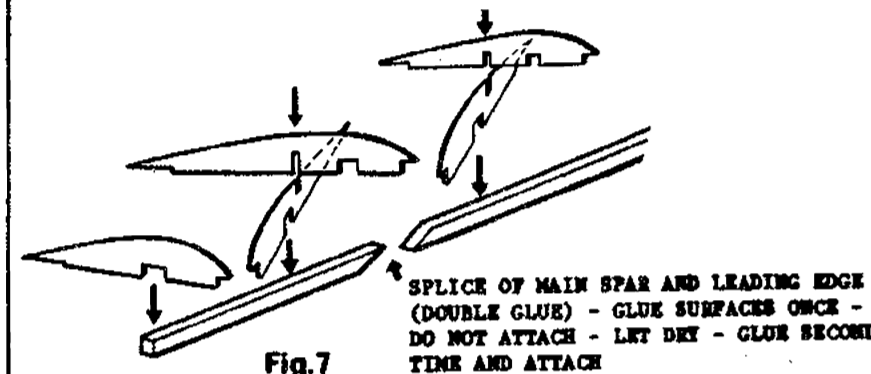
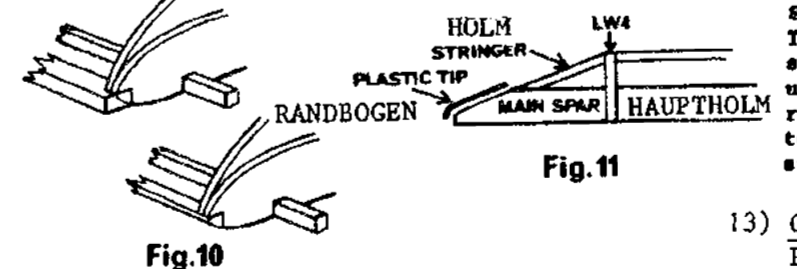
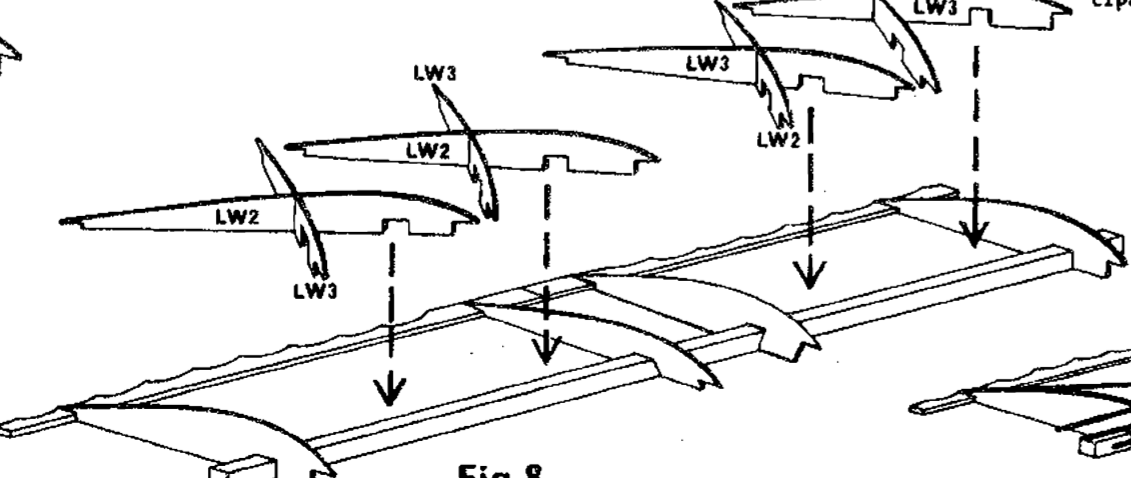
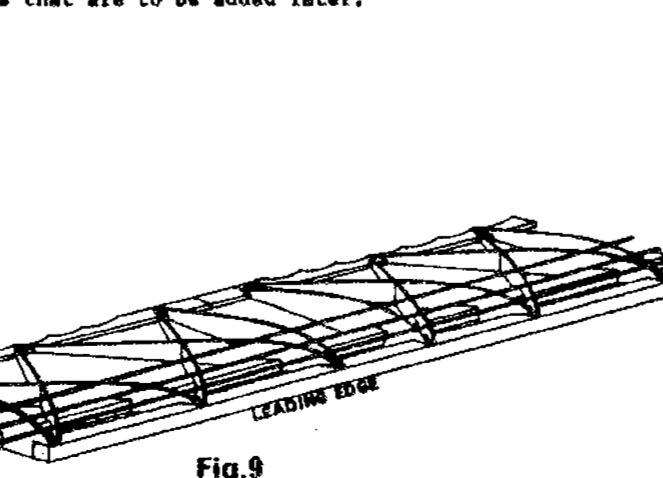

Fig. 7
Fig. 10
Fig. 8
Fig. 9
To construct lower wing, cut trailing edge pieces from 1/4" x 1/16" stringer wood, then trim curves on outer edges as shown by dotted lines on FIG. 8. Then pin to plan, laying wax paper down first so pieces can be easily lifted off.
Cut main spar to length and pin to plan (FIG. 8) as indicated. NOTE: Main spar pieces included in kit are not long enough without splicing. Refer to FIG. 7. This splicing technique should also be used later to assemble leading edge.
8) UNTEREN FLÜGEL: ENDLEISTE AUS 6x1.5mm RUNDUNGEN AN DEN GESTRICHELTEN LINIEN AUSSCHNEIDEN (FIG. 8) UND MIT STECKNADELN AUF DEM PLAN FESTSTECKEN. (WAXPAPIER UNTERLEGEN UM FESTKLEBEN ZU VERHINDEREN)
9) HAUPTHOLM ZUSAMMEN LEIMEN (SCHÄFTEN FIG. 7) VON LÄNGE SCHNEIDEN UND AUF DEM PLAN FESTSTECKEN (FIG. 8) WIEDERHOLE DASSELBE MIT DER NASENLEISTE
Now criss cross wing formers LW2 and LW3. Place in position on FIG. B and glue to main spar and trailing edge as in FIG. 8.
Cut leading edge spar to length using 1/4" spar wood (FIG. 8) and glue to front of ribs (FIG. 9). Complete by gluing top stringers into notches, trim off excess when dry. Finish leading edge by trimming excess wood and sanding to rounded edge as in FIG. 10. Trailing edges should also be sanded and rounded at this time. Cut and trim main spar and stringers as in FIG. 11, for plastic tips that are to be added later.
12) NASENLEISTE 6x6mm VON LANGE SCHNEIDEN VOR DIE RIPPEN SETZEN, EINLEIMEN UND FESTSTECKEN (FIG. 9) DANN DIE OBEREN HOLME EINLEIMEN, NACH DEM TROCKNEN ABHEBEN NASENLEISTE MIT SANDPAPIER ABRUNDEN, HAUPT HOLM AVSCHRÄGEN, RANDBÖGEN (PLASTIC) EINLEIMEN, OBEREN HOLM KNICKEN UND AUFLAIMEN (FIG. 11)
11) DIE RIPPEN LW2 UND LW3 ÜBER KREUZ ZUSAMMEN STECKEN UND EINLEIMEN (FIG. 8)